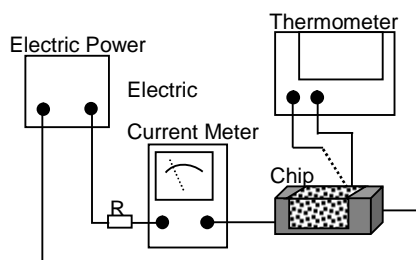

Fig. 5.3.5-1
- d. Definition of Rated Current(I_r): I_r is direct electric current as chip surface temperature rose just 20°C against chip initial surface temperature(T_a) (see **Fig. 5.3.5-2**).